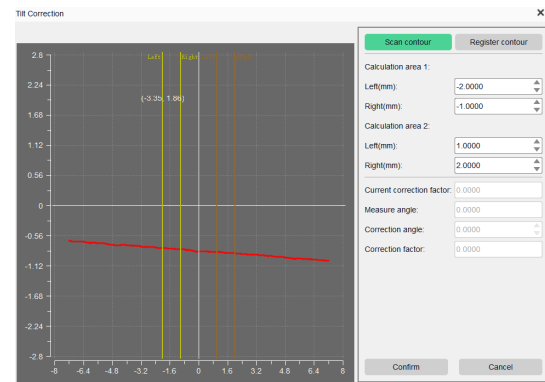

Figure 3.4.6 Obtaining the Profile
- 2 After entering the tilt correction interface, click the Scan Profile button to perform a profile scan and acquire profile data, as shown in Figure 3.4.6.